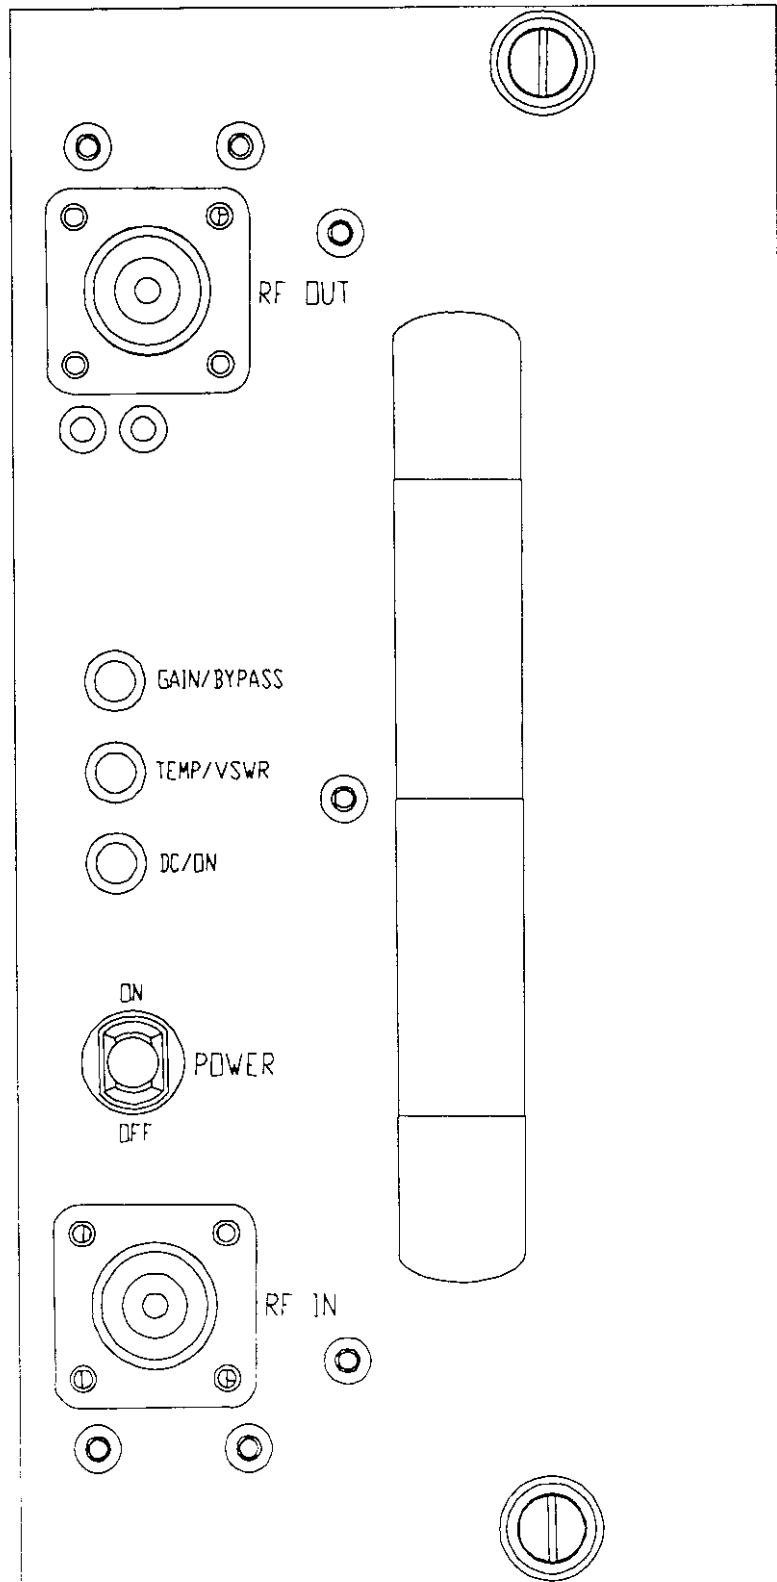

Figure 2-2. SPS9301-50 Amplifier Module Front Panel
7. Refer to figure 2-2 for the location of all input/output connectors.